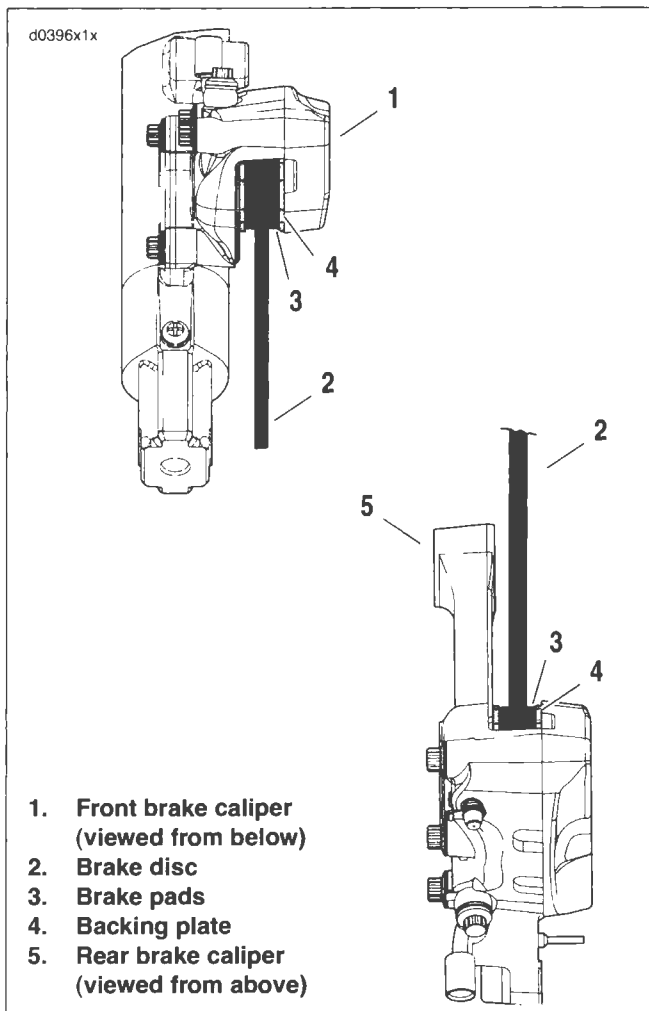

Figure 1-16. Brake Pad Inspection
See Figure 1-16. Replace brake pads (3) if brake pad friction material on either the front or rear caliper is worn to service limit. Always replace both pads in a caliper as a set.
- FLSTSC **front** brake pads: 0.06 in. (1.6 mm) or less above the backing plate (4).
- All other brake pads: 0.04 in. (1.02 mm) or less above the backing plate (4).